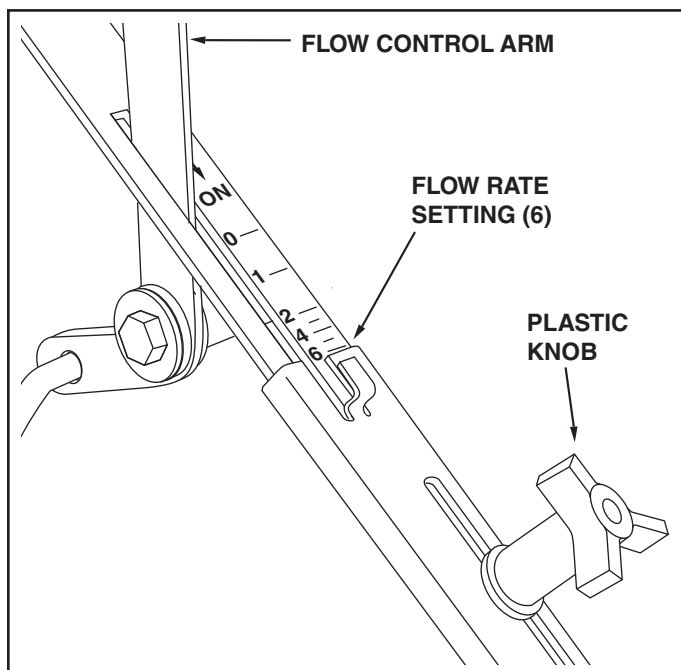

FIGURE 29
2. Loosen the knob and adjust the flow control gauge to the recommended setting. Retighten the knob. See figure 29.